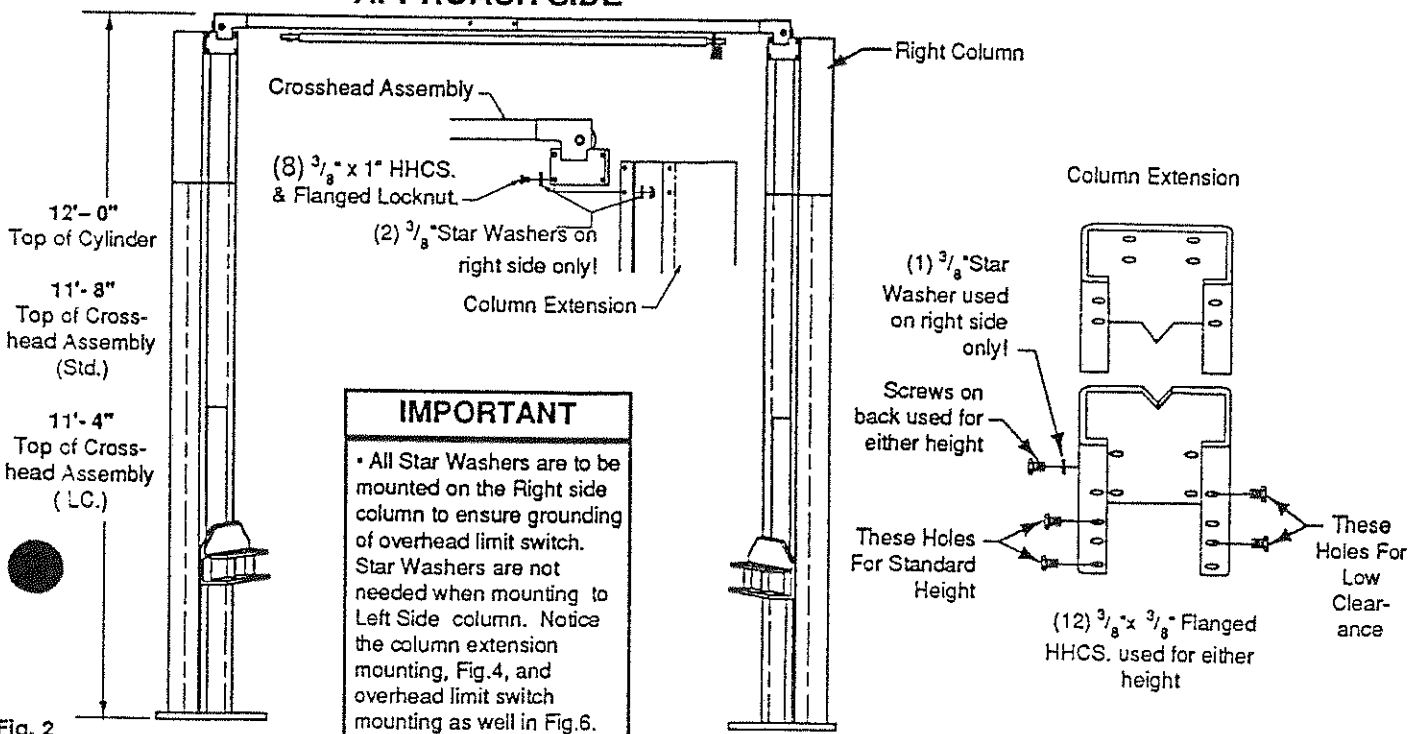

Fig. 2
2. **Lift Height:** See Fig 2 for overall lift height of each specific lift model. Add 1" min. to overall lift model height to lowest obstruction.
5. Install column extensions to columns using (12)  $\frac{3}{8}$ " x  $\frac{3}{8}$ " lg. Flanged Hex Cap Screws. Adjust column extensions plumb as required. Note: Star washer used, Fig. 2.